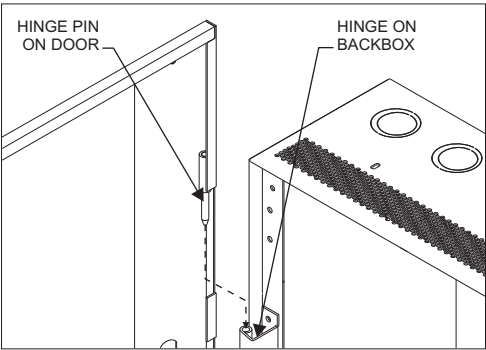

Figure 2
1. Insert the hinge pins on the door in the hinges on the backbox. (Refer to Figure 2.)